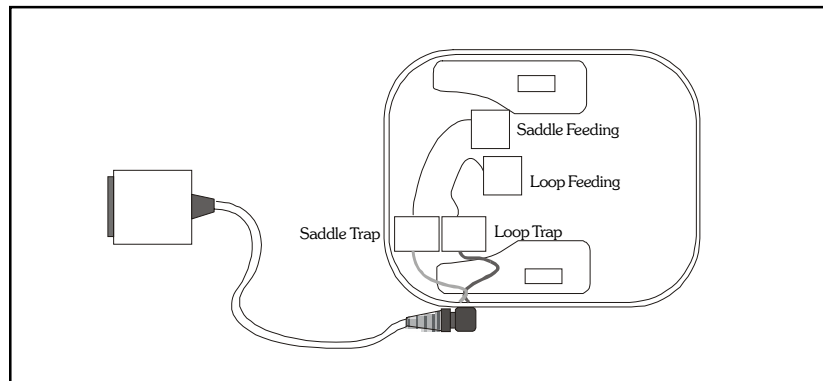

Figure 1: Block diagram of the coil.
- The block diagram of the Phased Array Volume Neck Coil is shown in *Figure 1*. The Phased Array Volume Neck Coil is a receive-only coil designed to give optimum signal to noise and uniform coverage of the neck region. The coil consists of two elements: (1) a loop coil and (2) a saddle coil. The coil has a split-top configuration which enables the scanning of patients with different neck sizes (fits 98 percent of subject population) and patients suffering from claustrophobia. The split-top design also facilitates easier handling and positioning for the user.